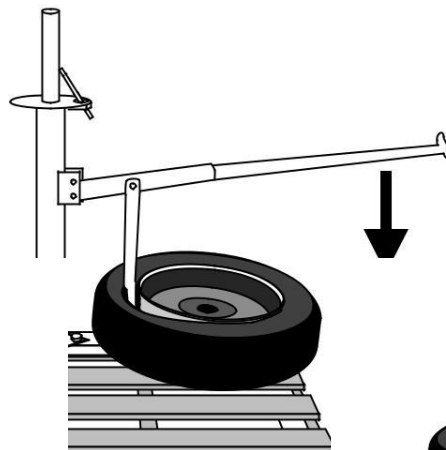

Figure 8
8. Set Bead Breaker Shoe against the edge of tire rim and push down on Bead Breaker Handle, removing bead from rim. See Figure 8, below.
11. Remove Post Cap (2) and Spider Post (4) from top of Center Post.